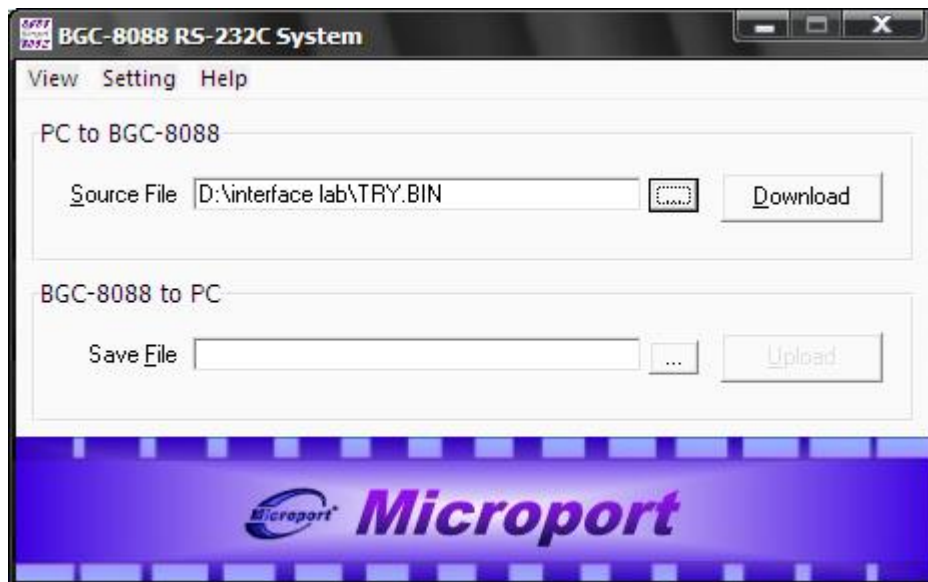

Figure 6
- f) Now the following screen will appear to choose the .BIN file which you want to download it. (see figure 6)